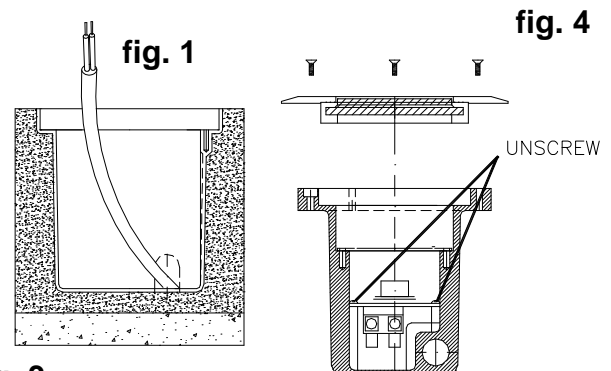

fig. 3
- INSERIRE IL CAVO TRIPOLARE NEL PRESSACAVO (FIG.3).
- (BILD3) IN DER KABELDURCHGANGSKLEMME DIE DREILEITERRKABEL EINSETZEN. VERKABELN, DANN ELEKTRIFIZIERUNGSPLETTE WIEDER EINSTELLEN UND DIE KABELDURCHGANGSKLEMME FESTMACHEN.
INSERT THE THREEPOLAR CABLE INTO THE CABLE GLAND (FIG.3)
INTRODUIRE LE CÂBLE TRIPOLAIRE DANS LE SERRE-CÂBLE. (FIG.3)